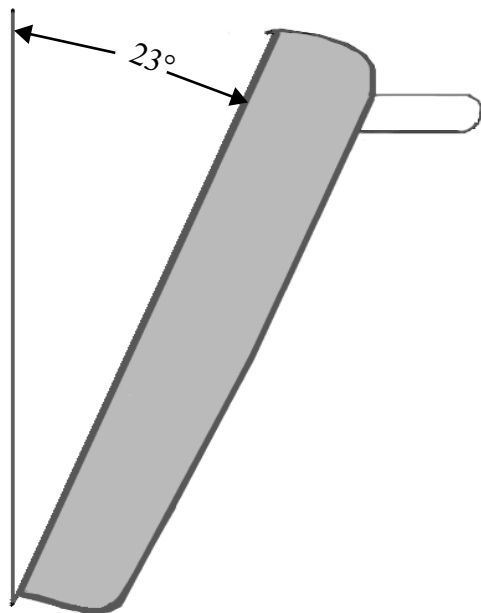

Figure 8: Approximate Door Angle for Removal
1. Position the door at a sharp angle (see *Figure 8*) and insert the hinges centered evenly into the hinge slots. The hinges will securely hook into the slots when properly installed. Do not force, bend, or twist the door.